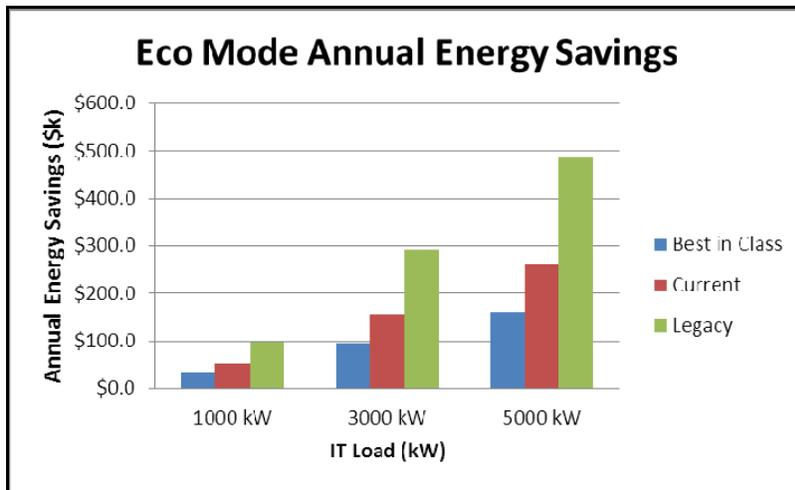

Figure 19. UPS Eco Mode annual energy savings for typical data centers
The economic benefit of UPS Eco Mode measured as energy cost savings also can be estimated. These potential energy savings will vary with a range of factors, including UPS efficiency, cooling efficiency, power cost, operating hours, and IT load (in kilowatts [kW]). Using the three typical data center types described above, The Green Grid estimated the annual energy savings as a function of IT load (kW); Figure 19 represents a summary of the results. These energy savings ranged from less than \$100,000/year savings for 1 megawatt (MW) IT load to almost \$500,000 per year for 5 MW load in a legacy data center, based on the operating assumptions included in the lower portion of Figure 19.